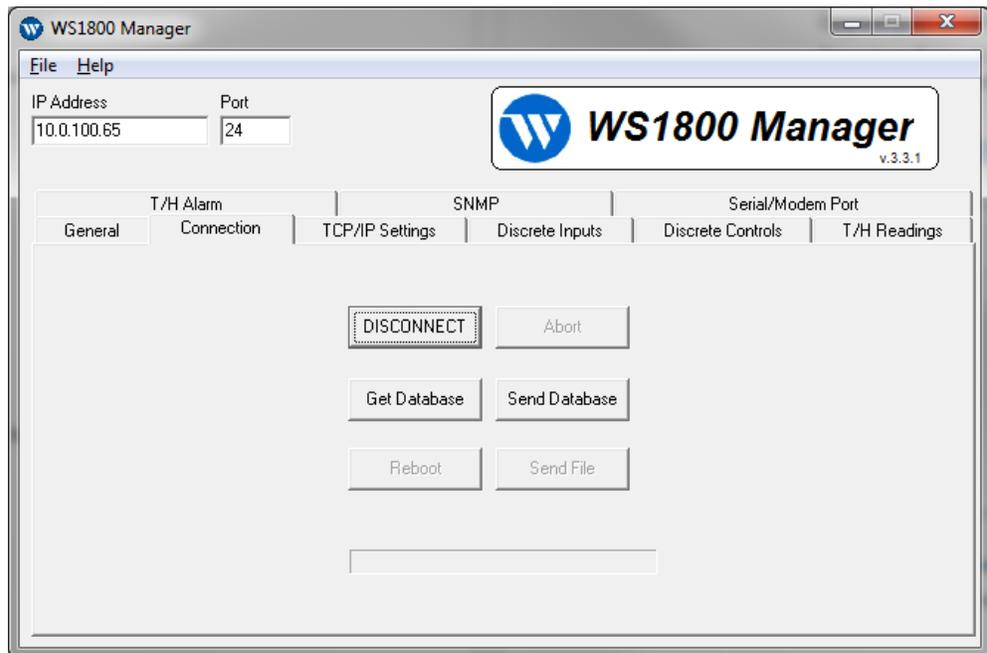

Figure 15 –Upgrade Tab when connected to active WS1800
9. Figure 15 below shows the buttons that become activated when you have connected to the RTU and the information displayed in the status bar at the bottom of the dialog box. This instance of Manager is connected to the default upgrade port (24), so the Get Database (view what is on the RTU) and Send Database (change what is on the RTU) buttons are active. The Send File Abort and Reboot buttons are greyed out as they cannot be used on this port. Their use will be covered in the Firmware Upgrading section of this manual in Chapter 5.